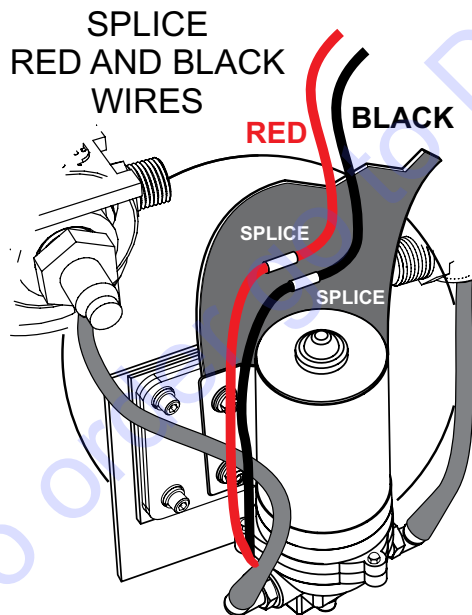

Figure 10. Pump Wiring
1. Using a butt splice (Figure 10), connect the **RED** and **BLACK** wires from the pump to the **RED** and **BLACK** wire that were cut earlier. Reference the "Water Pump Removal" section step 3.